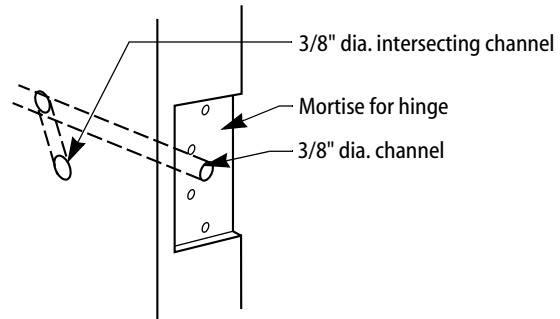

Figure 7—Intersecting channel for door transfer loop
- 1 Drill a 3/8" diameter hole from the inside face of the door to intersect the 3/8" diameter channel running through the door as shown in Figure 7.